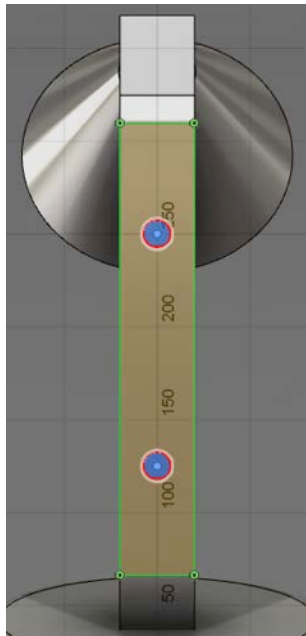

Fig. L15
- b. Sketch two circles about 15mm diameter (Fig.L15).